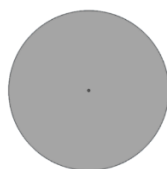

Figure 2 Cytotoxicity disc
2. *Cytotoxicity disc* (Figure 2) to be able to assess the cytotoxic potential.